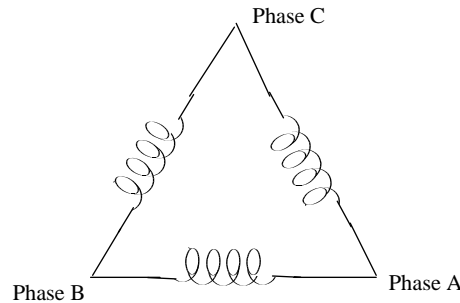

Figure 1.3: Three-Phase Delta Winding Relationship
- Delta connected services may be fed with either three wires or four wires. In a three-phase delta service the load windings are connected from phase-to-phase rather than from phase-to-ground. Figure 1.3 shows the physical load connections for a delta service.